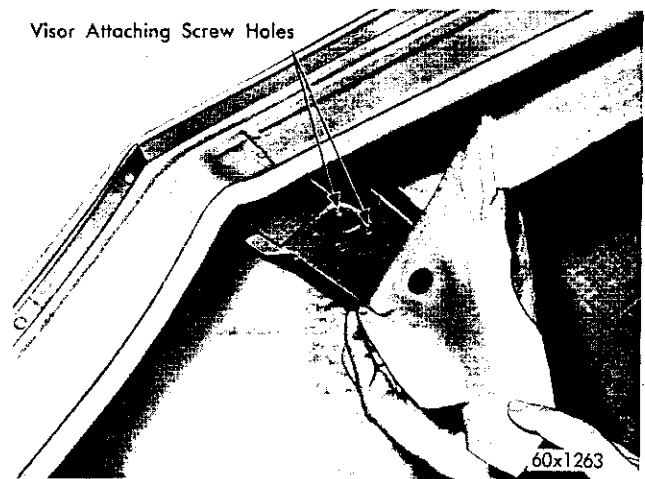
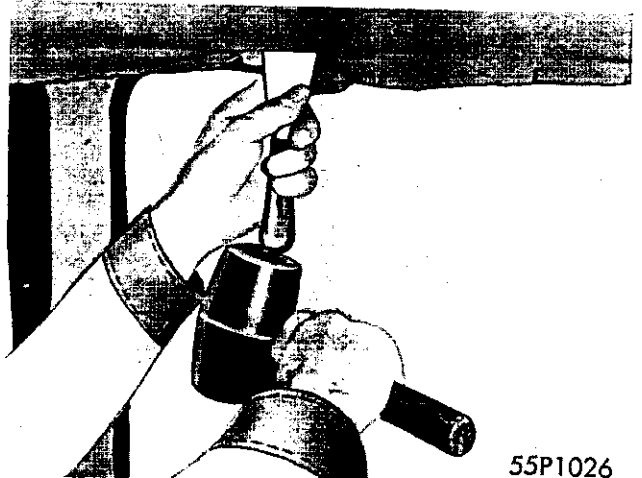

Fig. 65—Visor Attaching Holes (Chrysler)
Fig. 66—Tucking the Headlining Between the Roof Rail and the Retainer (Chrysler)
(7) Cut holes in the headlining for the visor (Fig. 65) retaining screws and pivot.
(8) Install the visors before tucking in the corners of the headlining at the top of the windshield posts to prevent tearing the headlining when tightening the screws.
(9) Install the garnish mouldings.
**NOTE:** In most cases the listing is longer than necessary. Cut the material at the ends to prevent wrinkling at the seams when it is tucked or cemented in place (Fig. 66). Cut the listing from the end up to the clip. Use care to prevent cutting the listing too far up the bow and ruining the fit of the headlining.